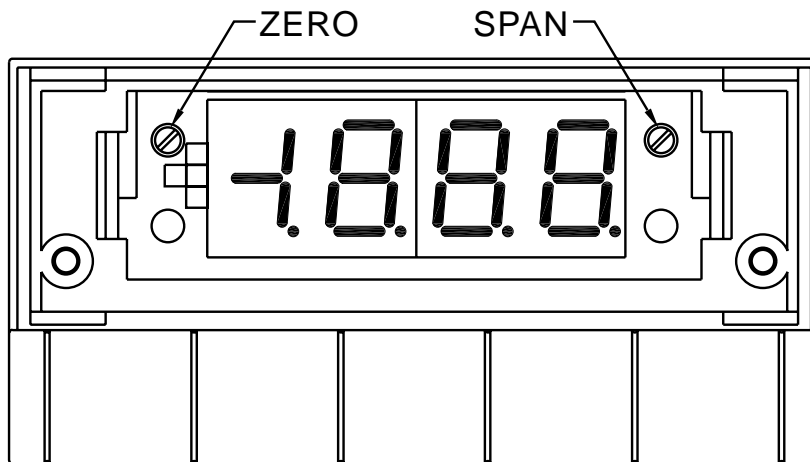

Figure 4-4. Calibration Potentiometers
4. Adjust either the **ZERO** or **SPAN** potentiometer as shown in **Figure 4-4**.